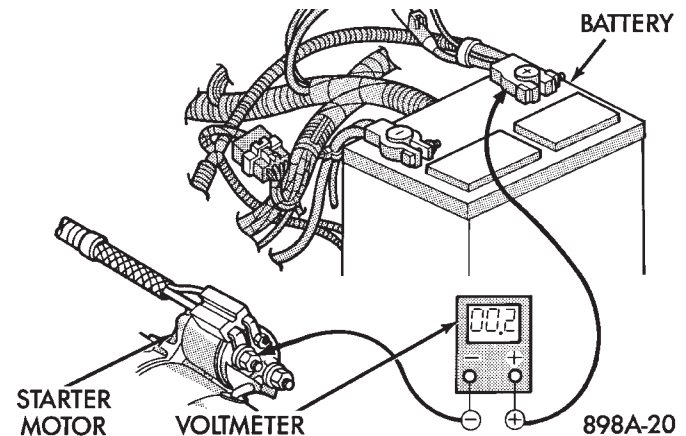

Fig. 4 Test Battery Positive Cable Resistance (Typical)
(3) Connect voltmeter to measure between the battery positive post and the starter solenoid battery stud (Fig. 4). Rotate and hold ignition switch in the START position. Observe voltmeter. If voltage reads above 0.2 volt, correct poor contact at battery cable to solenoid connection. Repeat test. If reading is still above 0.2 volt, replace battery positive cable.